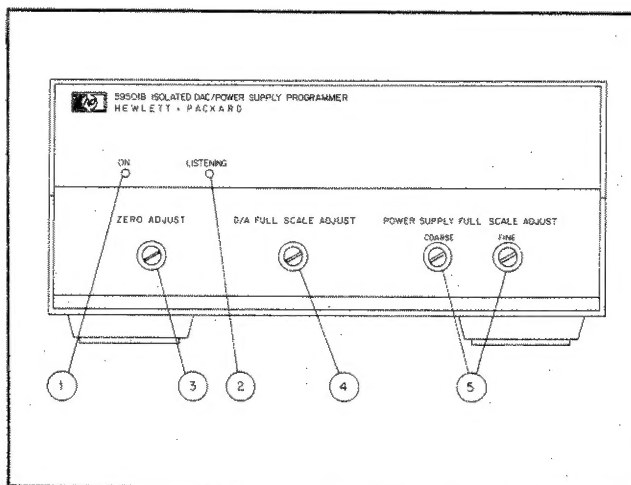

Figure 3-1. 59501B Front Panel
3-7 The 59501B front panel contains a power on indicator, a status indicator and four controls (screwdriver adjustments) as shown in Figure 3-1.
3-8 The power on (ON) indicator ① (Figure 3-1) lights and the 59501B's internal supply voltages ( $+15V$ ,  $\pm 15V$ ,  $V_{dd}$ ) are present when the line cord is plugged-in.